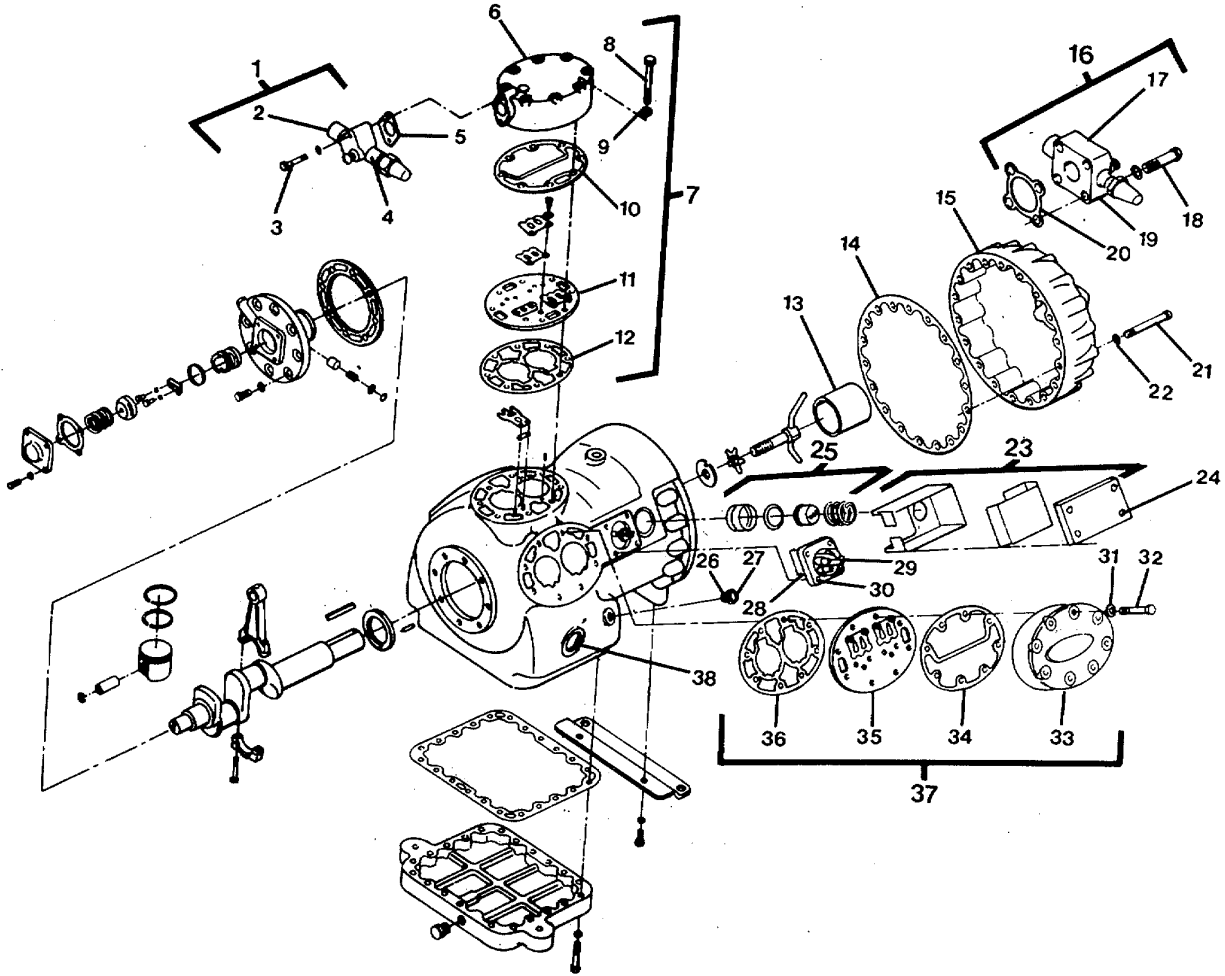

Figure 4-19 . Compressor Unit (A/C-2) .
- (1) When possible, pump down the system to remove refrigerant charge from compressor (Item 10, Table 4-1).
- (2) When defective components make it impossible to pump down the system, remove refrigerant charge using the method given in (paragraph 4-10).
- (3) When replacing compressor suction and/or discharge service valve(s) (16 and 1, FIGURE 4-19) the valves must also be isolated from the rest of the system. Evacuate and recharge with R-22 refrigerant when discharge service valve is being replaced (paragraph 4-10).
- b. Replace thermostat (25, FIGURE 4-19) and/or terminal gasket (28).
- (1) Remove four screws (24) and remove thermostat cover and bracket (23).
- (2) Tag and disconnect electrical wiring to thermostat (25) and compressor terminal (29).
- (3) Remove thermostat (25) from compressor. (4) Remove four screws (30) and remove terminal (29) and gasket (28). Discard gasket.
- (4) Remove four screws (30) and remove terminal (29) and gasket (28). Discard gasket.
- (5) Install new thermostat (25).
- (6) Use a new gasket (28) and install terminal (29) with four screws (30). Torque capscrews to 18 ft-lb.
- c. Replace suction (service) valve package (16) and/or discharge (service) valve package (1).